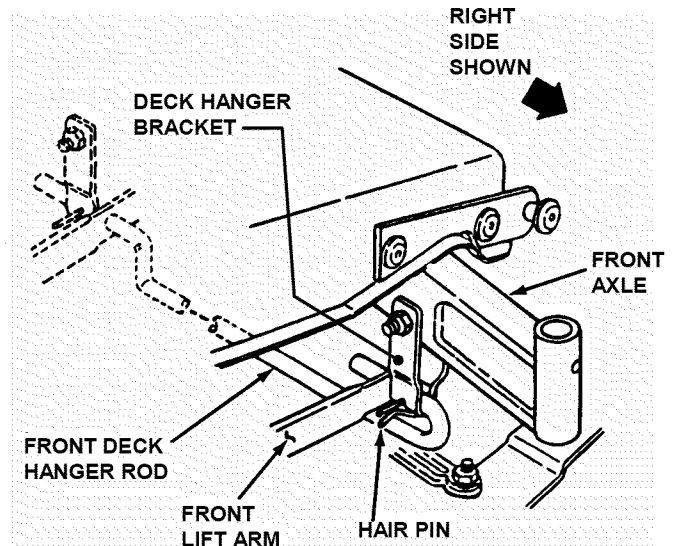

FIGURE 4.27
5. Remove hair pins from the front deck hanger rod and slide out the rod from deck hanger bracket. Front lift arms will be now be disconnected. See Figure 4.27.